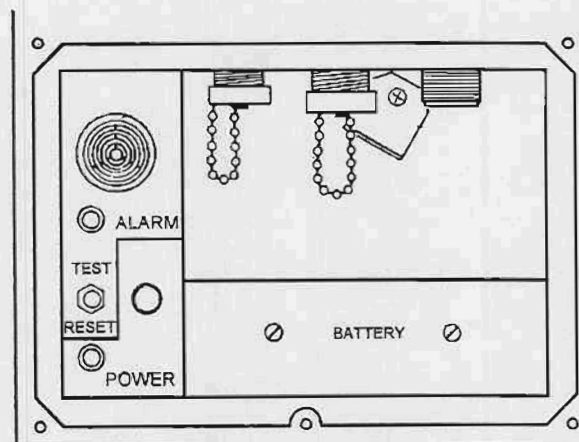

Figure 1-8. Control panel information.
- (3) Control panel information is depicted in figure 1-8.